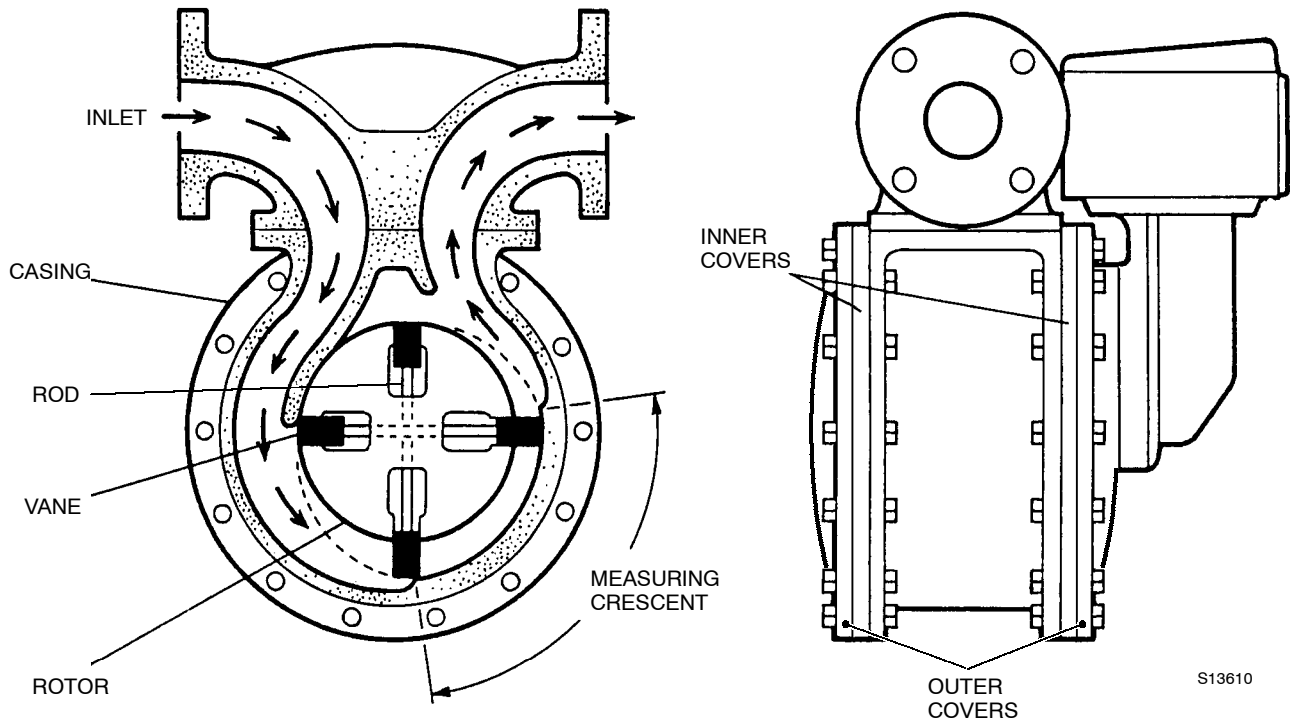

FIG 1.2 METER OPERATION (RIGHT HAND DISCHARGE SHOWN)
- 1.4 The series consists of eight meters for pipeline sizes of 2.5 to 6 inches and are of the positive displacement type as illustrated in Fig 1.2.